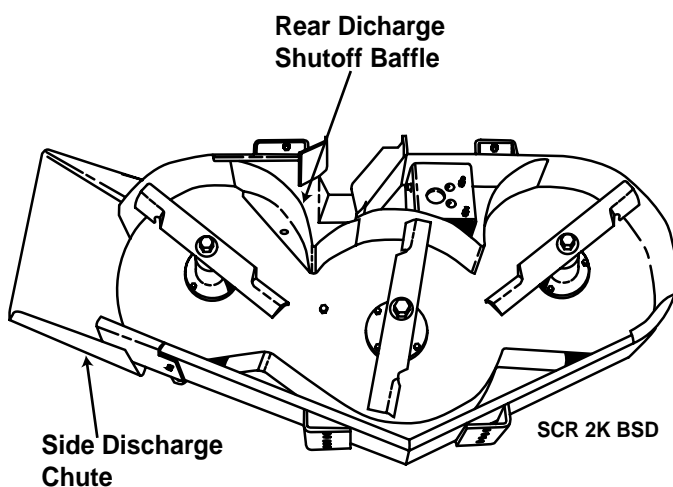

Figure 4-12 Baffles for Side Discharge
1. Place the proper baffles in the cutter deck and install the side discharge chute (Figure 4-12).